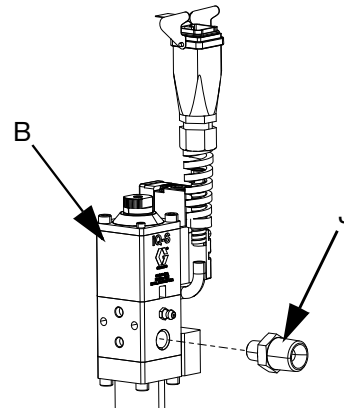

FIG. 26
- 8. Connect the Swivel to Valve Fitting (J) to the Dispense Valve (B) as shown in FIG. 26.